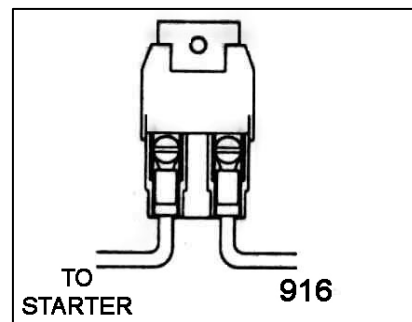

Figure 7-3 Maxi Fuse
7.3.1 With crimping tool, attach Maxi Fuse (Figure 7-3) onto end of ENGINE SECTION (single) 10 ga. wire #916 (red) AFTER having routed wire from the Fuse Panel to the Starter Solenoid. This serves as a fuse to protect the entire harness. DO NOT OMIT IT!
- 8.2.1 With crimping tool, attach the Maxi Fuse (**Figure 7-3**) onto end of ENGINE SECTION (single) 10 ga. wire #916 (red) AFTER having routed wire (with or without ammeter) from the Fuse Panel to the Starter Relay. This serves as a fuse to protect the entire harness. DO NOT OMIT IT!